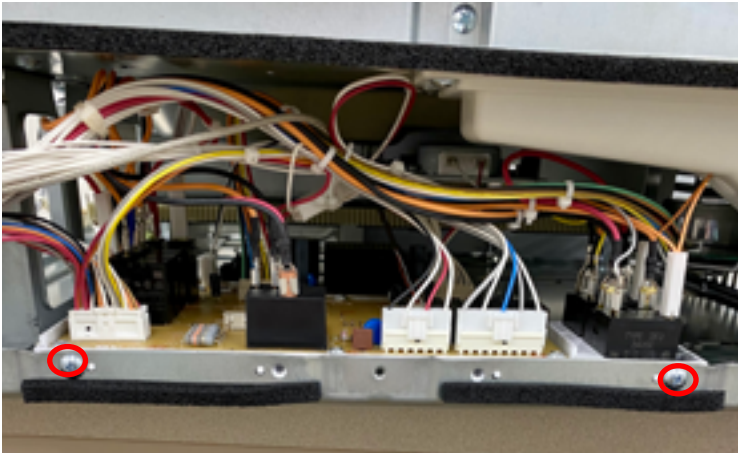
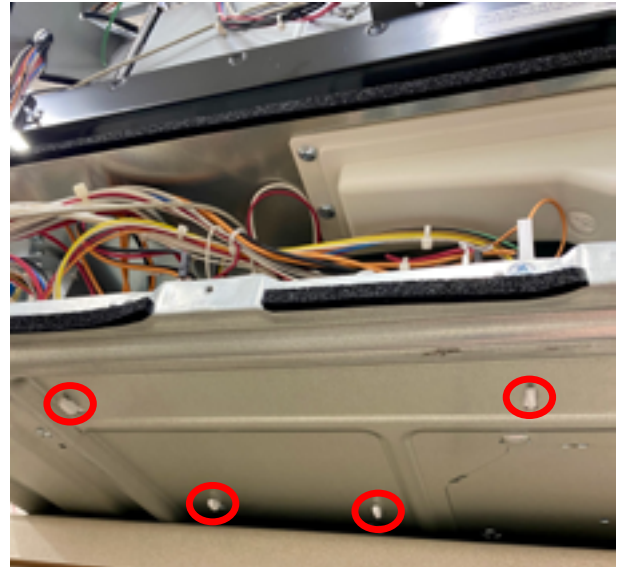

Fig. P-1
Fig. P-2
2. Remove (2) screws from Baseplate holding PSU Unit and push back to unhook tabs from the Baseplate. (Fig. P-1 & Fig. P-2).